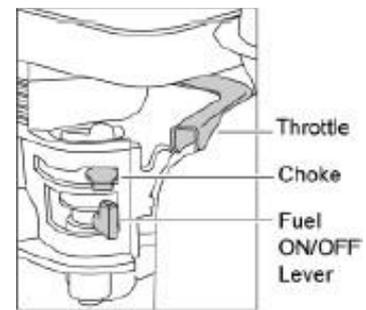

Figure 1.
1. Turn on the fuel tap by moving the fuel 'ON/OFF' lever fully to the right (Figure 1).